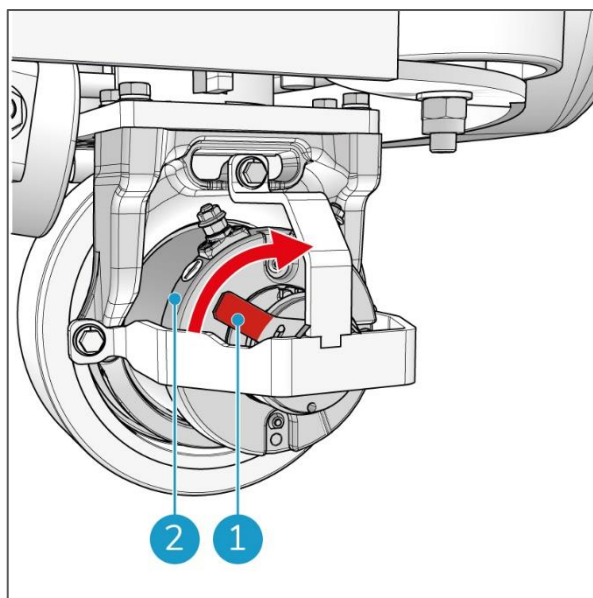

Figure 8
The electromagnetic brake (Figure 8, pos 2) is integrated in the front wheel. It keeps the i-drive® in brake mode when the i-drive is in "OFF" mode or in "ON" mode, but remains stationary (when your foot is not on the accelerator pedal).
In case you need to move the i-drive, push the red lever (Figure 8, pos 1) forward to unlock the brake. See also section 4.4.